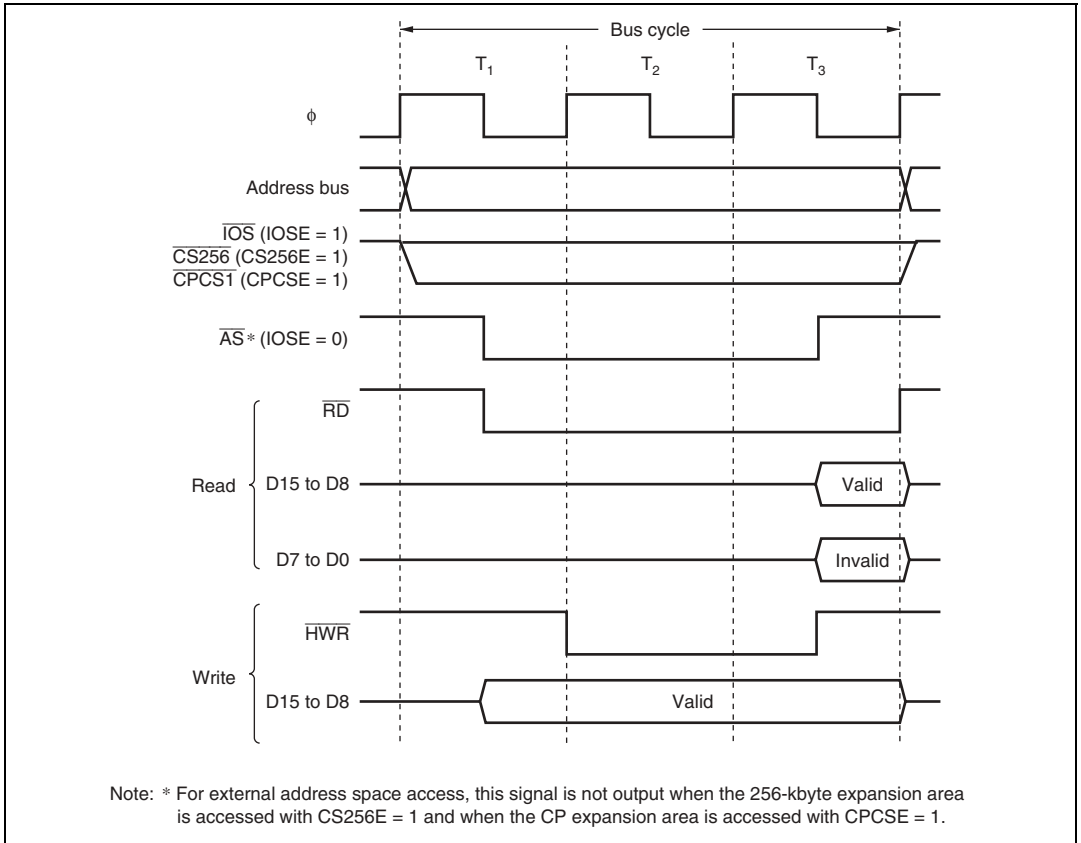

Figure 6.6 Bus Timing for 8-Bit, 3-State Access Space
(2) 8-Bit, 3-State Access Space: Figure 6.6 shows the bus timing for an 8-bit, 3-state access space. When an 8-bit access space is accessed, the upper half (D15 to D8) of the data bus is used. Wait states can be inserted.